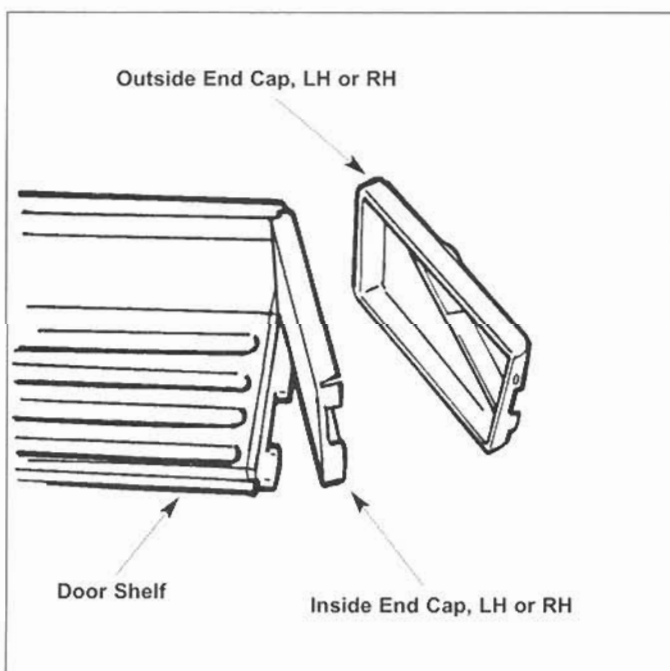

Figure 2-13. Door Shelf Disassembly
2. This will release the end caps from the door shelf support, allowing the door shelf support to slide off the open end (Figure 2-13).